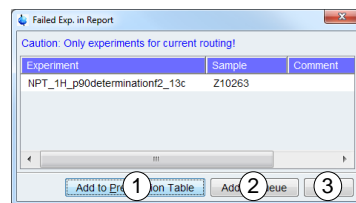
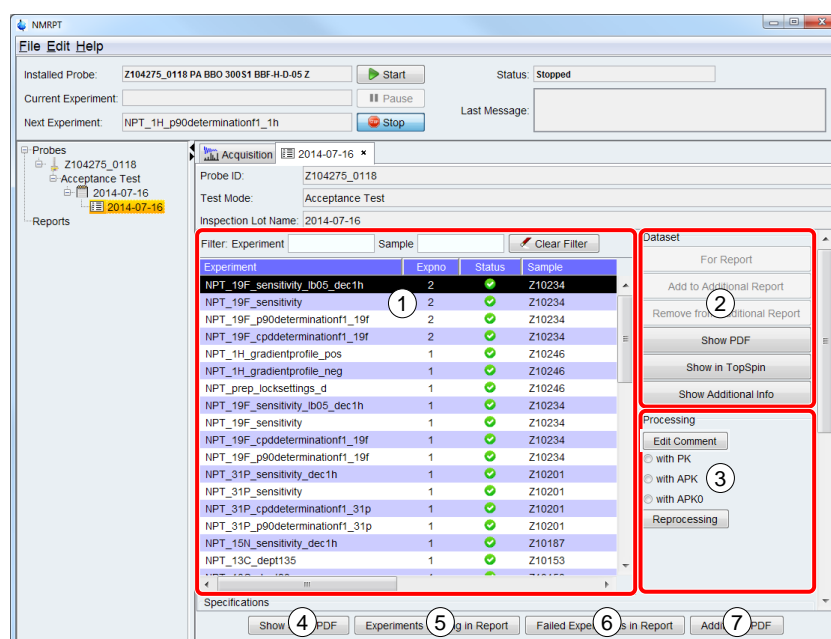
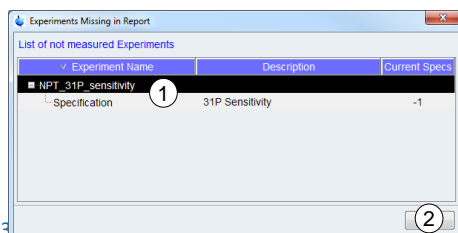
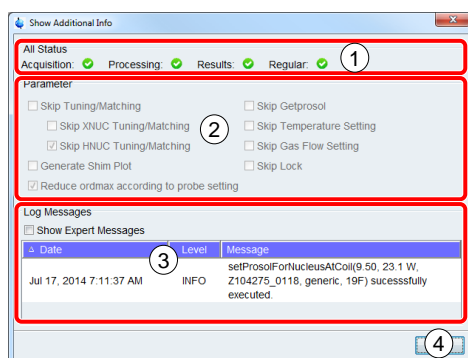

Figure 5-67: Acquisition tab – Failed Exp. in Report
Figure 5-72: Results tab – overview
Figure 5-73
Figure 5-78: Results tab – Show Additional Info dialog
Click **Exp. Failed in Report** (5) to show a list of experiment runs set to be used for report (Figure 5-67) that do not meet specifications. Only experiments for current routing and samples currently available are listed.
Select experiments from the list (Figure 5-67) and click **Add to Preparation Table** (Figure 5-67 (1)) to move the experiments to the table for Experiment Preparation. Click **Add to Queue** (Figure 5-67 (2)) to add the experiments directly to the Experiment Queue. Click **Close** (Figure 5-67 (3)) to close the dialog.
The Results tab provides an overview of all experiments executed and their results. It offers access to additional information about each run of an experiment and allows selecting the run for report. It also offers access to the measurement data in TopSpin and provides options for reprocessing of a selected run. The Results tab (Figure 5-72) consists of three main areas:
- (4) Click **Short PDF** (Figure 5-72 (4)) to access the Short PDF of this Inspection Lot.
- (5) **Experiments Missing in Report**
Click **Experiments Missing in Report** (Figure 5-72 (5)) to show a list of experiments of the Inspection Lot not measured yet (Figure 5-73). Only experiments for samples currently available are listed.
Expand experiment items from the **List of not measured Experiments** (Figure 5-73) to show the Current Specs of the experiments. Click **Close** (Figure 5-73 (2)) to close the dialog.
Click **Failed Experiments in Report** (Figure 5-72 (6)) to show a list of experiment runs set to be used for report (Figure 5-67) that do not meet specifications. Only experiments for samples currently available are listed.
Select a run of an experiment in results table (Figure 5-72 (1)) and click **For Report** (1) to select the run to be used for report. A report icon  in the **Report** column of the run indicates the run is used for report. If errors occurred during measurement or processing, this option may be disabled.
Select a run of an experiment in results table (Figure 5-72 (1)) and click **Add to Additional Report** (2) to add the run of the experiment to the Additional Report. A report icon  in the **Additional Report** column of the run indicates the run is used for report. If errors occurred during measurement or processing, this option may be disabled.
Select a run of an experiment in results table (Figure 5-72 (1)) and click **Remove from Additional Report** (3) to remove the run of the experiment from the Additional Report. This option is only available for runs added to the Additional Report.
Select a run of an experiment in results table (Figure 5-72 (1)) and click **Show PDF** (4) to access the single spectrum PDF of this run. If errors occurred during measurement or processing, this option may be disabled.
Select a run of an experiment in results table (Figure 5-72 (1)) and click **Show in TopSpin** (5) to access the measurement data of this run in *TopSpin* window.
Select a run of an experiment in results table (Figure 5-72 (1)) and click **Show Additional Info** (6) to open Additional Information dialog (Figure 5-78).
The **Show Additional Info** dialog (Figure 5-78) provides detailed information about **All Status** (Figure 5-78 (1)) of the run. Separate icons indicate if **Acquisition** and **Processing** occurred without errors and if the **Results** match the specifications. A fourth icon indicates if the experiment was executed under **Regular** conditions.
An overview about the applied *NMRPT* control **Parameters** (Figure 5-78 (2)) is provided for information.
**Log Messages** (Figure 5-78 (3)) are listed to provide detailed information about the specific run. Click **Show Expert Messages** to access more detailed expert information.
Click **Close** (Figure 5-78 (4)) to close Show Additional Info dialog.
- (1) Select a run of an experiment in results table (Figure 5-72 (1)), select **default** (1) and click **Reprocessing** (5) to reprocess the run of the experiment applying the default phase correction option for this experiment. (see Experiment Documentation, 1.5 Referenced Documents)
- (2) Select a run of an experiment in results table (Figure 5-72 (1)), select **with PK** (2) and click **Reprocessing** (5) to reprocess the run of the experiment applying TopSpin PK command.
- (3) Select a run of an experiment in results table (Figure 5-72 (1)), select **with APK** (3) and click **Reprocessing** (5) to reprocess the run of the experiment applying TopSpin APK command.
- (4) Select a run of an experiment in results table (Figure 5-72 (1)), select **with APK0** (4) and click **Reprocessing** (5) to reprocess the run of the experiment applying TopSpin APK0 command.
- (5) **Reprocessing**